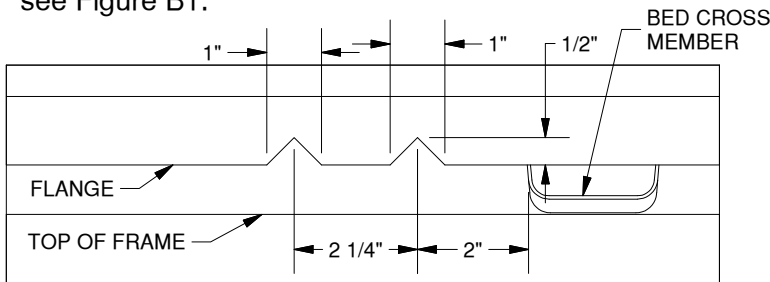

Figure B1. FRONT OF TRUCK →
1. Cut V-shaped notches in flange. Before the rear cross member can be installed there must be two small notches cut in the bed floor flange behind the center bed cross member on the passenger side. At 2" behind the center cross member make the first V-shape notch 1/2" tall x 1" wide in the bed floor flange. The second notch will need to be 2 1/4" behind the first, see Figure B1.